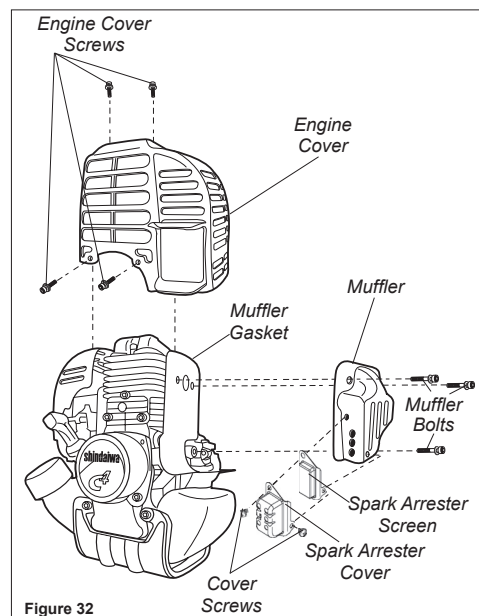

Figure 32
3. With a small flat bladed screwdriver remove the 2 screws holding the spark arrester screen and cover to the muffler. See Figure 32.
1. With a 3 mm hex wrench remove the 3 engine cover screws and the engine cover. See Figure 32.
2. With a 4 mm hex wrench remove the 3 muffler bolts and the muffler. See Figure 32.